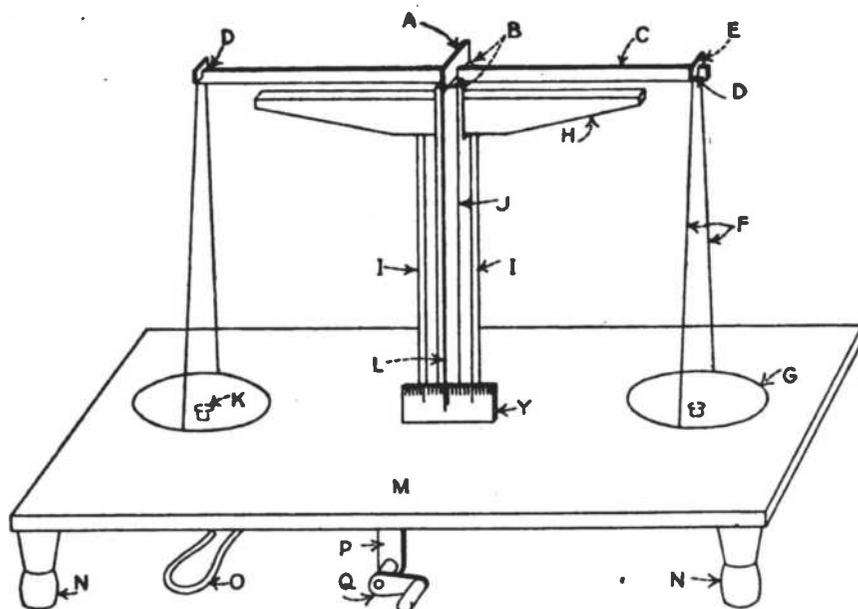

Fig. 1
Fig. 1 illustrates the completed bal-
brass or aluminum and is $\frac{1}{8}$ in. thick, $\frac{1}{2}$ in. wide and 10 ins. long. (See C, Fig. 1.) In the center of the beam a $\frac{1}{8}$ in. slot is sawed. A $\frac{1}{2}$ -in. hack saw blade is then ground to a knife edge. A piece $1\frac{1}{2}$ ins. long is soldered into the slot. (See A.) This forms the main bearing of the beam. Exactly $\frac{1}{4}$ in. from each end of the beam a small V shaped groove (D) is made.